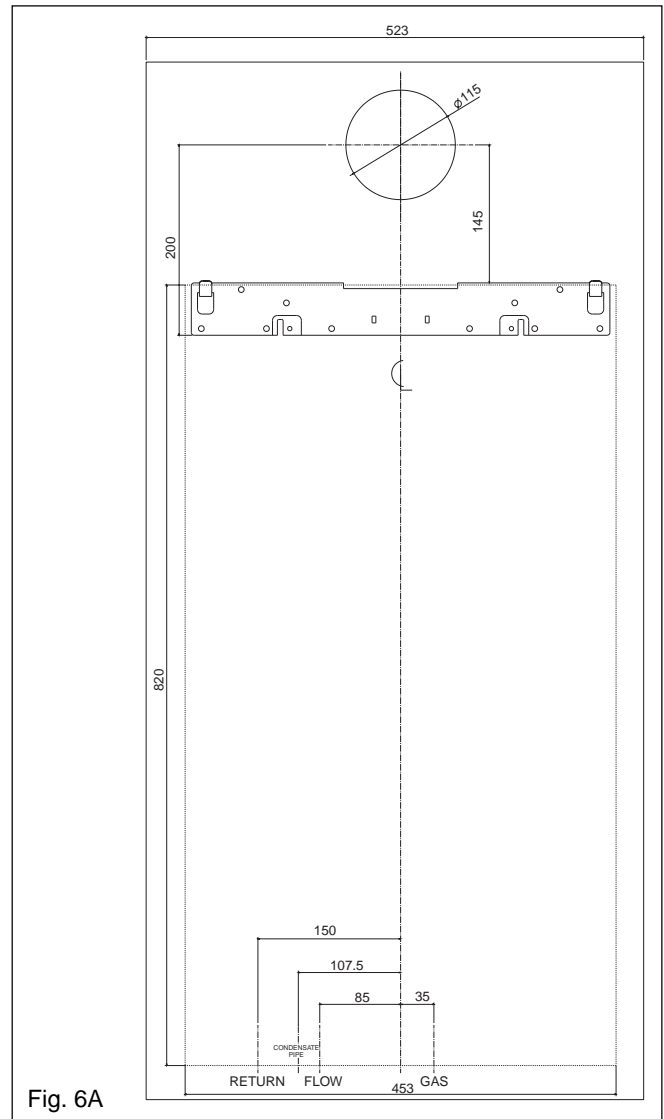

Fig. 6A
4.4 PREPARATION FOR MOUNTING THE APPLIANCE (see fig. 6A)
When the position of the appliance has been decided - using the template supplied – carefully mark the position of the wall- mounting bracket (see fig. 6A) and flue-hole (if applicable).